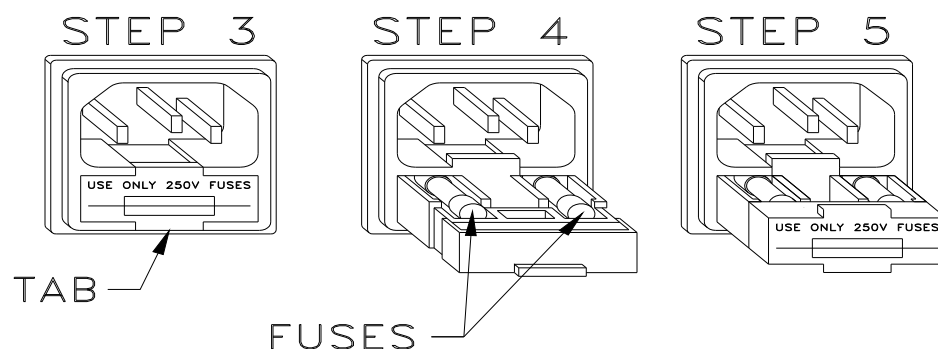

Figure 15-3
4. Use a small screwdriver to pry open the tab of the fuse drawer that is located directly below the power cord connector. The drawer will drop down to expose the ends of the 2 fuses. (Refer to Figure 15-3)